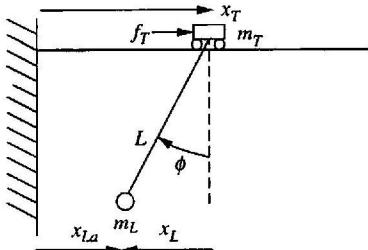

FIGURE P2.37 (© 1990 IEEE)
62. Figure P2.37 shows a crane hoisting a load. Although the actual system's model is highly nonlinear, if the rope is considered to be stiff with a fixed length L , the system can be modeled using the following equations: